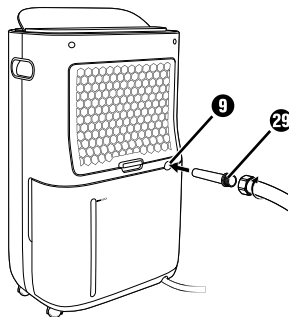

Fig. 4
- ◆ When using the EU garden hose adapter **29**, screw a garden hose onto the EU garden hose adapter **29** (see figure 4).